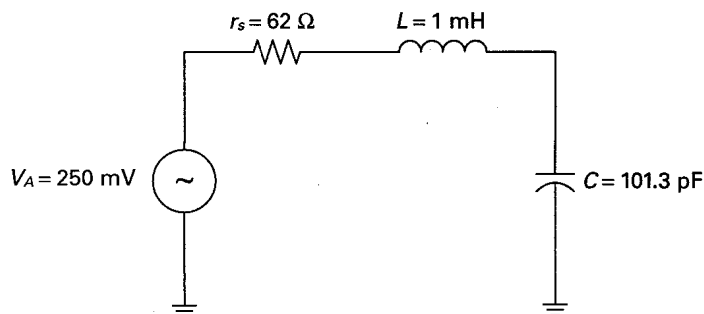

Fig. 1-16
**1.6** Refer to Fig. 1-16. Calculate the resonant frequency  $f_0$ . Also, solve the following at  $f_0$ :  $X_L$ ,  $X_C$ ,  $Z_T$ ,  $I$ ,  $Q$ ,  $V_L$ ,  $V_C$ . Also solve for BW,  $f_1$ , and  $f_2$ .